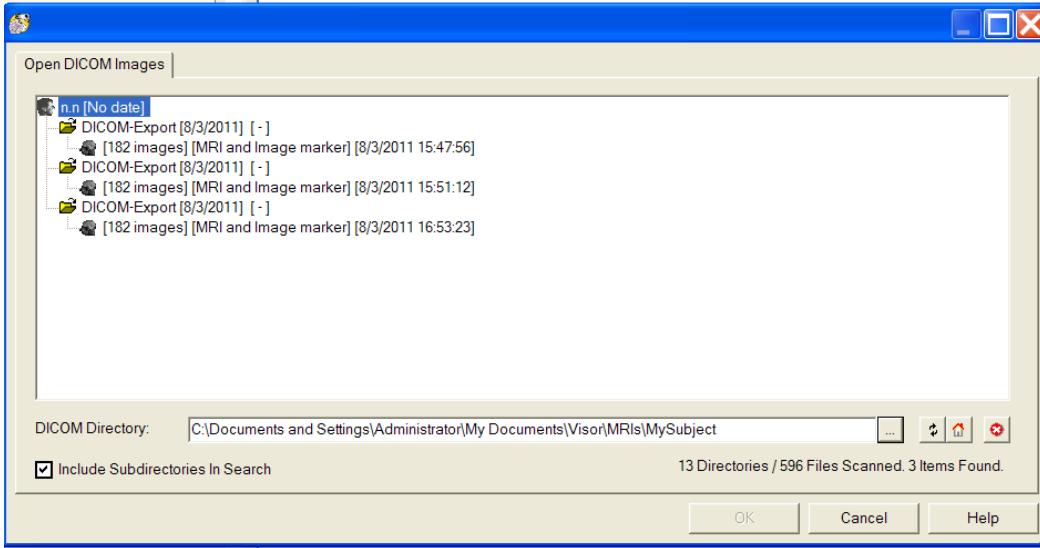

FIGURE 48: OPEN DICOM IMAGES DIALOG
- Click the [Review and Export] button to proceed. The “Open DICOM Images” dialog will be presented, and all available DICOM images of the selected patient will be shown, as displayed in Figure 48.